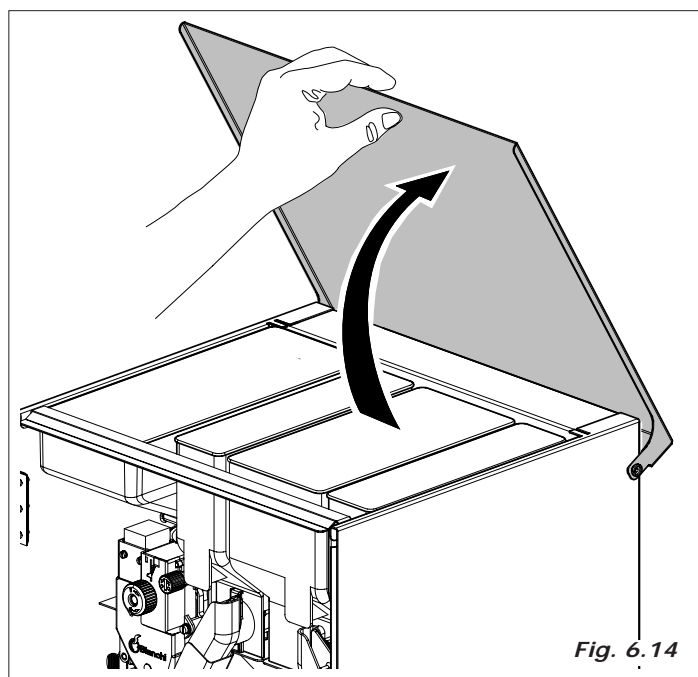

Fig. 6.14
- Lift the beverage machine's top shutter door (fig. 6.14).